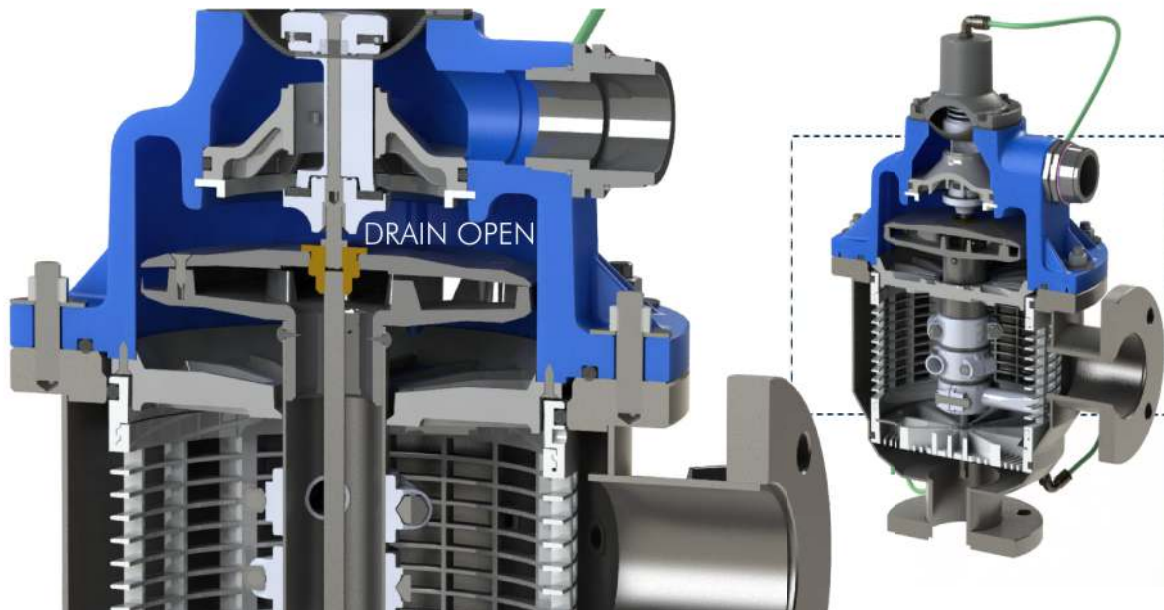

Figure 3 Flush Valve with drain Open.
- b. Filter enters flush, the flush valve moves away from steady state position, this opens the drain valve and flush begins. Water will now flow from inlet to both outlet and drain, thus a slight loss of pressure and flow to main outlet. See Figure 3 below.